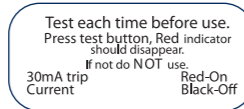
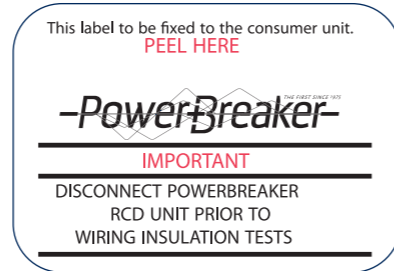

Fig.2
Fig.3
3. On final assembly stick test label (Fig.2) on front face plate close to operating buttons, and warning label (Fig.3) close to socket for wiring insulation tests.